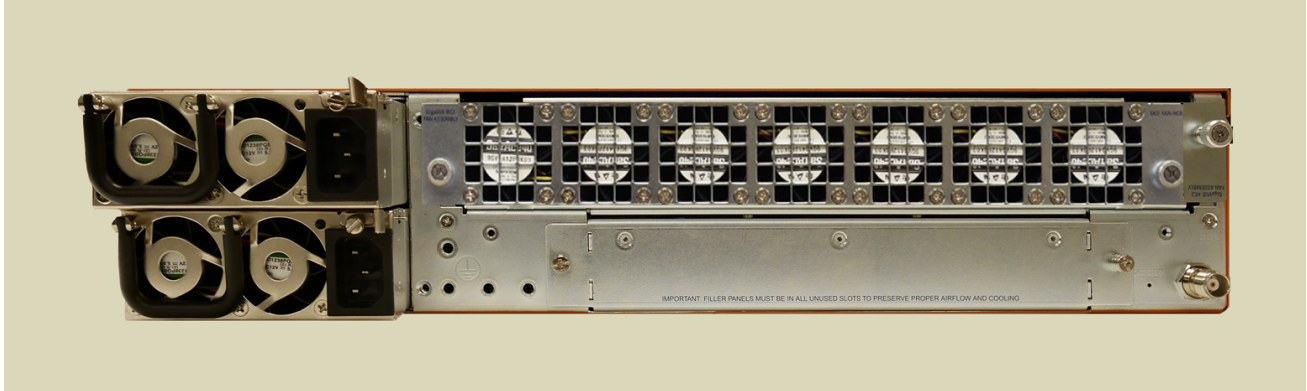

Figure 4: Power Module (AC Version Shown)
3. Carefully slide the first power module into the matching receptacles at the rear of the node (Figure 4: Power Module \(AC Version Shown\)), making sure to fit the tab at the base of the module into the matching bay at the bottom of the receptacle. Push gently to seat the unit firmly in the chassis.